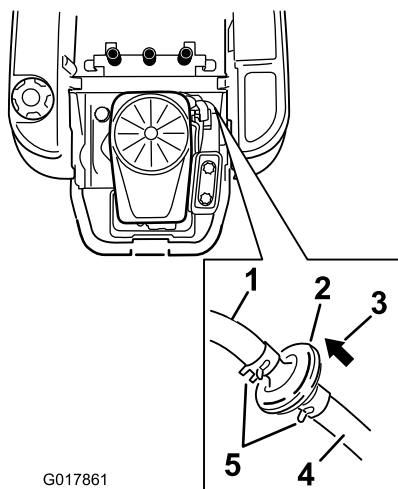

Figure 34
3. Raise the seat and locate the fuel filters as shown in Figure 34.
4. Squeeze the ends of the hose clamps together and slide them away from the filter (Figure 34).
6. Install a new filter with the flow direction arrow coming from the fuel tank and pointing to the engine. Move the hose clamps close to the filter (Figure 34) to secure it in place.